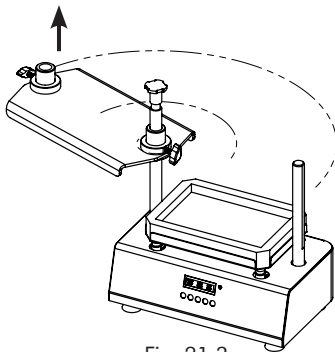

Fig. 21.3
- Pull up the top cover and rotate counterclockwise as shown in the fig.21.3